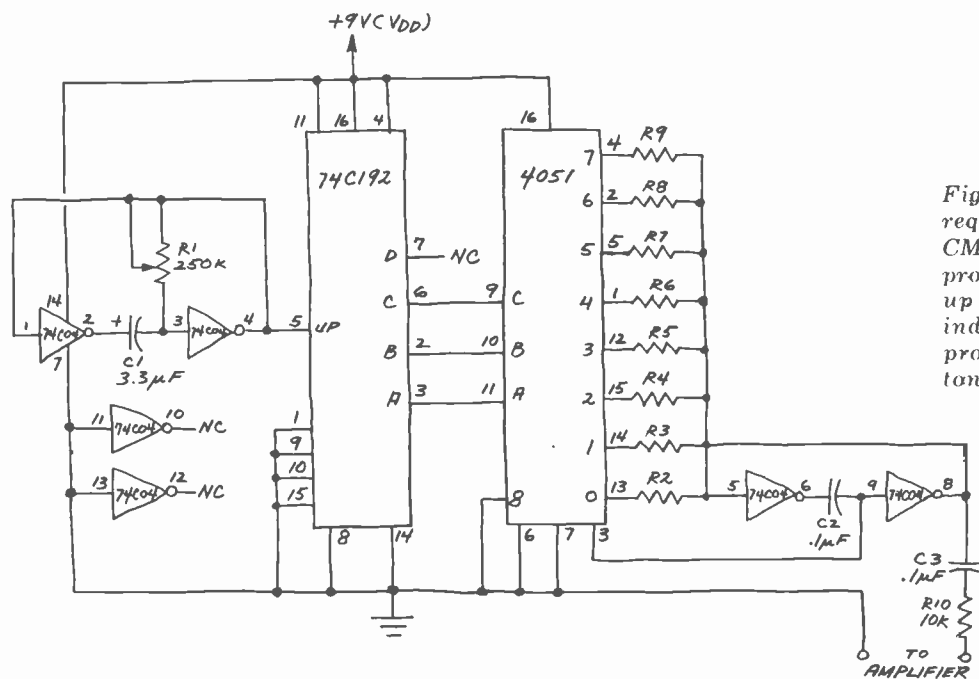
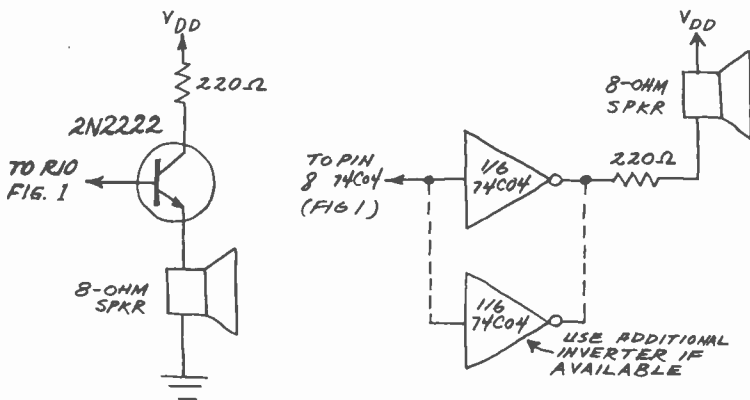

Fig. 1. This circuit requires only three CMOS chips to provide a sequence of up to ten individually programmable tones.
Fig. 2. Two simple ways to add a small speaker to sequencer.
**T**ONE sequencers can be used to generate electronic music, as toys, annunciators, or warning alarms, and in remote signalling. The sequencer shown in Fig. 1 requires only three CMOS chips to provide a sequence of up to ten individually programmable tones.
The circuit's tone generator can drive a small, high-impedance earphone directly. For more volume, connect the circuit to a small speaker using a driver transistor or unused inverter as shown in Fig. 2. Alternatively, connect the circuit to a small amplifier through  $C3$  and  $R10$  as shown in Fig. 1.
**Adding a Second Clock.** Referring to Fig. 1, note that there are two unused inverters in the 74C04. Normally, the inputs of the unused inverters and the unused data inputs of the 74C192 must be tied to ground or VDD since these are CMOS chips.
Referring to Fig. 1, here's how the circuit is modified: